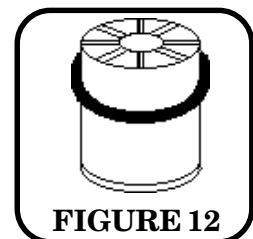

FIGURE 12
- b) Remove the blue seals on each end of the filter. Note that one end of the cartridge has a lip around the outside. Consider this the bottom. (See Figure 12.)